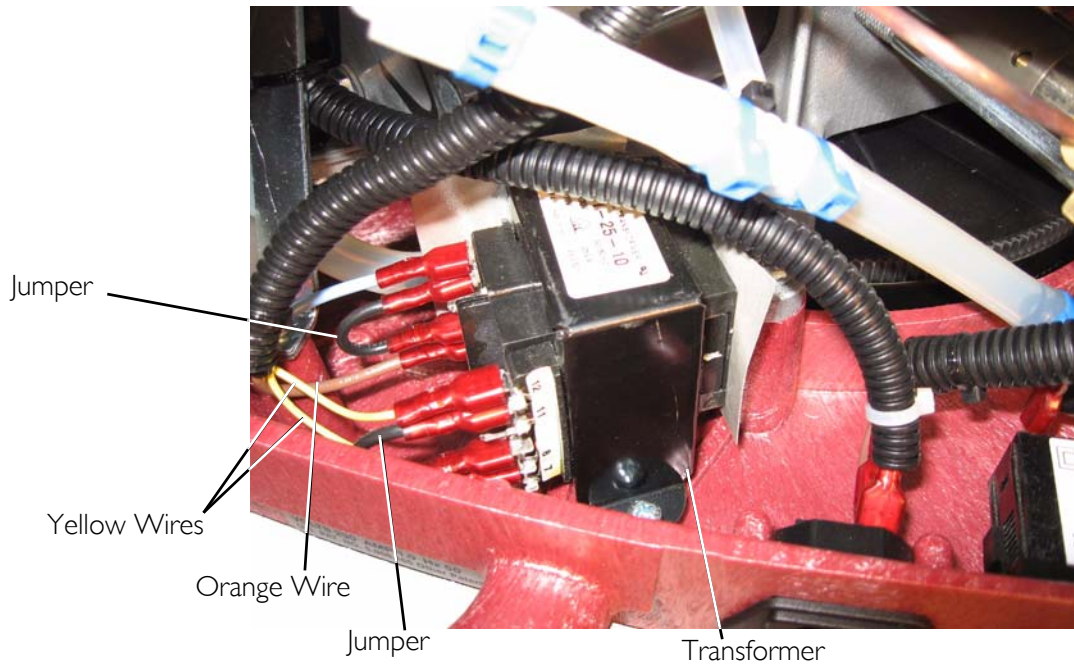

FIGURE 10.4 Compressor Replacement - HomeFill Units Manufactured Before 8/1/05
12. Using diagonal cutters, cut the tie wrap that secures the inlet hose to the inlet of stage 1 (FIGURE 10.4).
13. Disconnect the oxygen inlet hose from the inlet of stage 1 (FIGURE 10.4).
14. Using diagonal cutters, cut the tie wrap that secures the oxygen inlet hose to the receptacle fitting (FIGURE 10.4).
15. Remove the oxygen inlet hose from the receptacle fitting (FIGURE 10.4).
16. Using diagonal cutters, cut the tie wrap that secures the oxygen sensor tubing to the oxygen inlet hose (FIGURE 10.4).
17. Remove the oxygen sensor tubing from the oxygen inlet hose (FIGURE 10.4).
19. Using needle nose pliers, disconnect the connectors from the transformer. See Detail "A" in FIGURE 10.4.
20. Using needle nose pliers, disconnect the two connectors from the power inlet (FIGURE 10.4).
21. Using needle nose pliers, disconnect the two connectors (not shown) from the hour meter (FIGURE 10.4).
22. Lift control panel assembly off of base and set aside (FIGURE 10.4).
3. Position control panel assembly on base (FIGURE 10.4).
4. Connect the two connectors (not shown) to the hour meter (FIGURE 10.4).
5. Connect the two connectors to the power inlet (FIGURE 10.4).
6. Connect the four connectors to the transformer as noted in STEP 18 on page 62 (FIGURE 10.4).
7. Connect the oxygen sensor tubing to the oxygen inlet hose and secure with tie wrap (FIGURE 10.4).
8. Connect the oxygen inlet hose to the receptacle fitting (FIGURE 10.4).
9. Secure the oxygen inlet hose to the receptacle fitting with a tie wrap (FIGURE 10.4).
10. Connect the oxygen inlet hose to the inlet of stage 1 (FIGURE 10.4).
11. Secure the hose with a tie wrap using a tie wrap gun set at #8 (FIGURE 10.4).